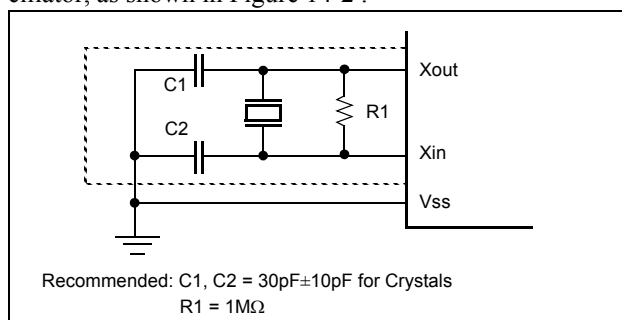

Figure 14-2 Oscillator Connections
XIN and XOUT are the input and output, respectively, a inverting amplifier which can be set for use as an on-chip oscillator, as shown in Figure 14-2.
**Note:** When using a system clock oscillator, carry out wiring in the broken line area in Figure 14-2 to prevent any effects from wiring capacities.